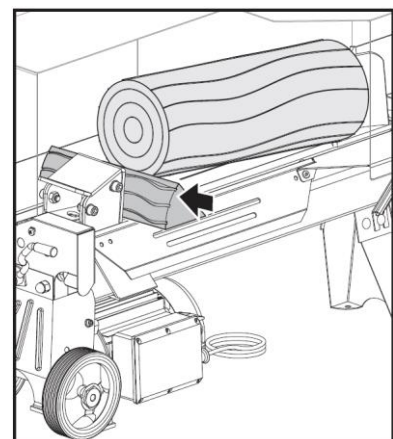

Fig. 15
- Release both hands from the controls to let the log pusher (11) return to its resting position automatically.
- Restart the log splitter to push the wedge fully under the jammed log. See Fig. 15.